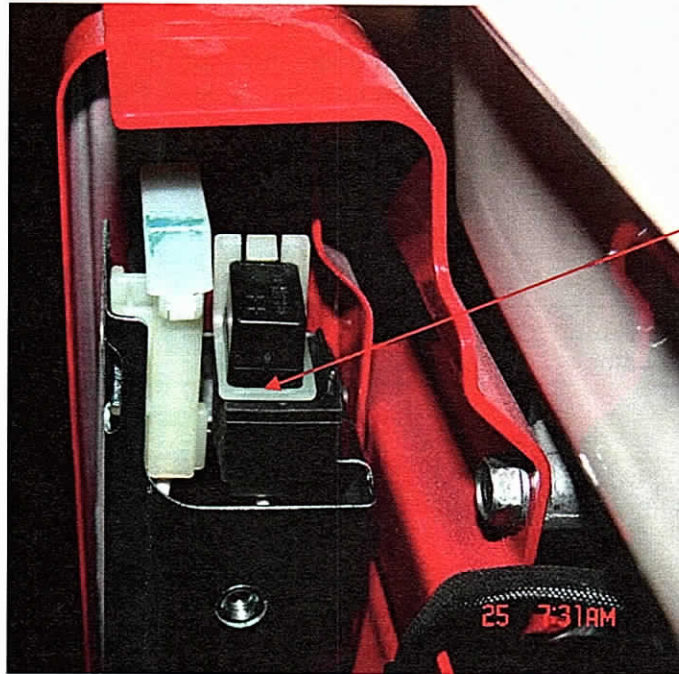

Figure 4
- b) Remove the black plastic cover from the back of the key switch box. Locate the black rectangular rectifier diode. It is on the side closet to the engine. Gently pry back the white plastic retainer clip on top of the diode closest to the key switch end and remove the diode. See Figure 4